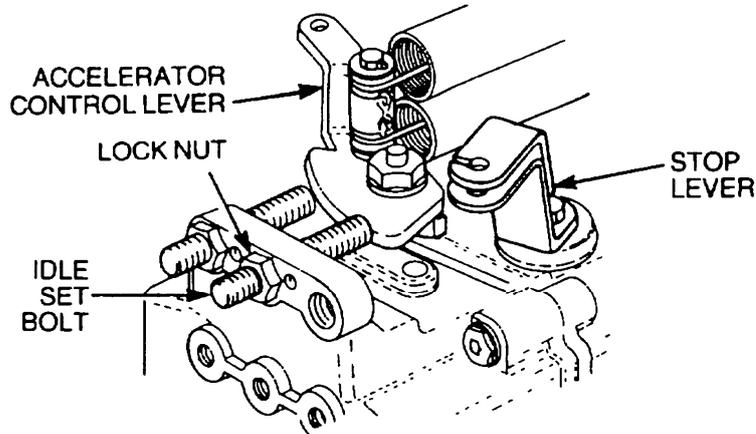

Figure 40 Accelerator Cable and Idle Speed Adjustment
- Ensure the control lever is in contact with the idle set bolt when the accelerator pedal is in the 'OFF' position (Figure 40).